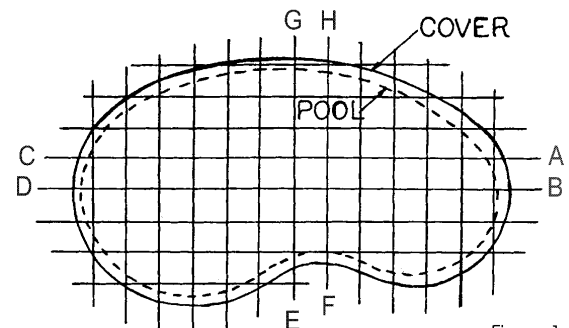

Figure 1
Locate anchor positions on Figure 1. Begin with strap location (A) and measure 20" from cover. Mark this location on the deck. Continue for straps (B), (C) & (D).
Continue with installing straps and anchors (E), (F), (G) & (H) as indicated in Figure 1.